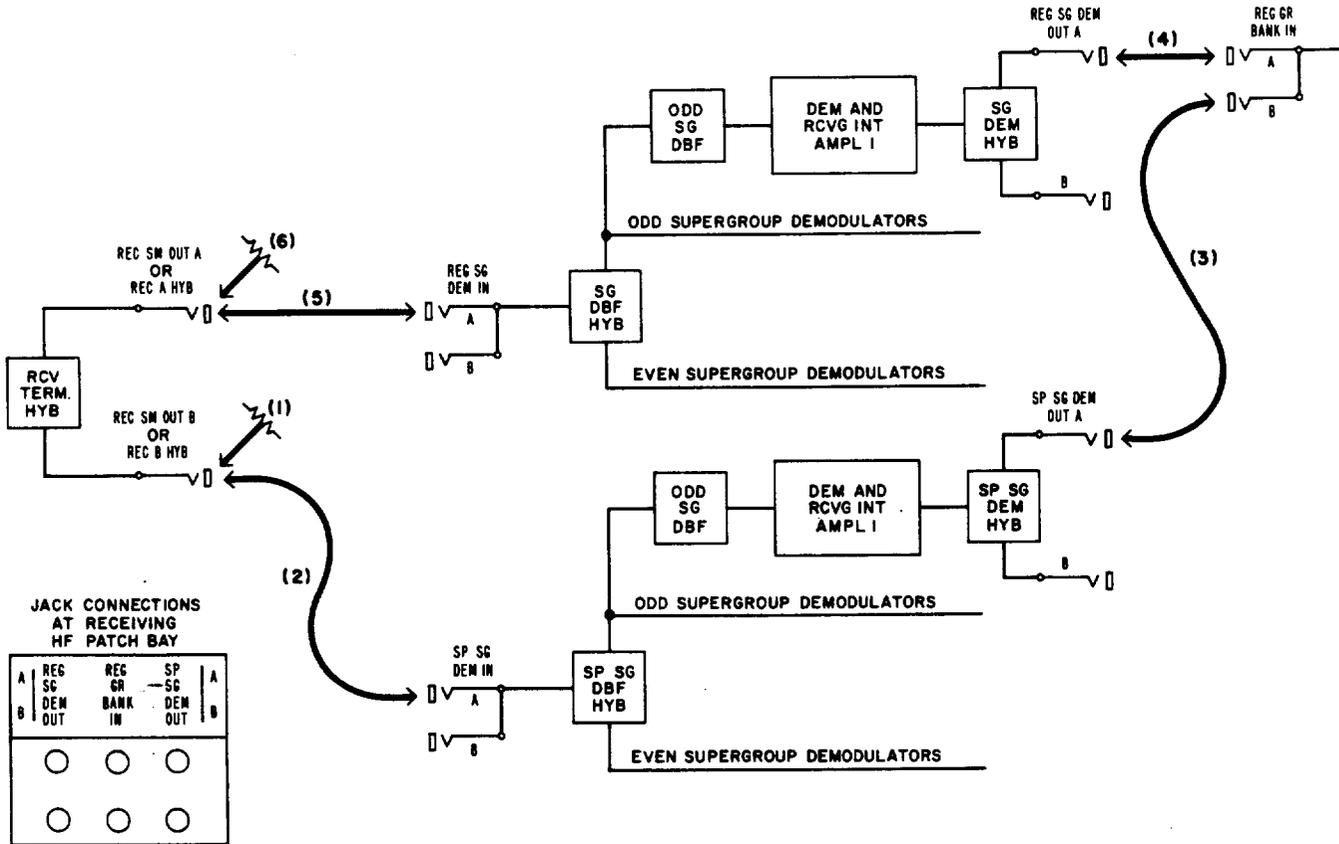

Fig. 6—Patching Receiving Supergroup Equipment
2	Remove patch (1) in Fig. 6 to remove the termination plug from the REC SM OUT B or REC B HYB jack.
10	Make patch (6) in Fig. 6 to terminate the REC SM OUT A or REC A HYB jack. Use the termination plug removed in Step 2.